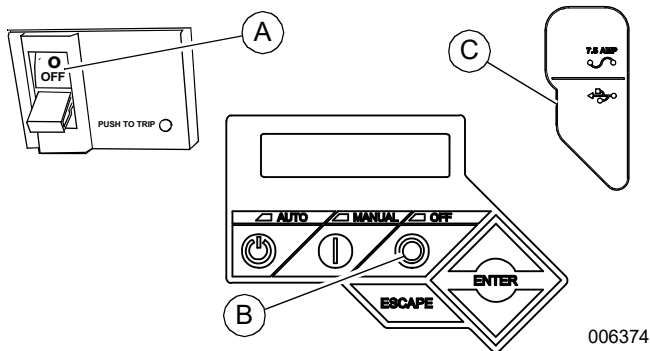

Figure 5-3. Generator Control Panel
2. See Figure 5-3. Set generator MLCB (generator disconnect) to OFF (OPEN) (A).